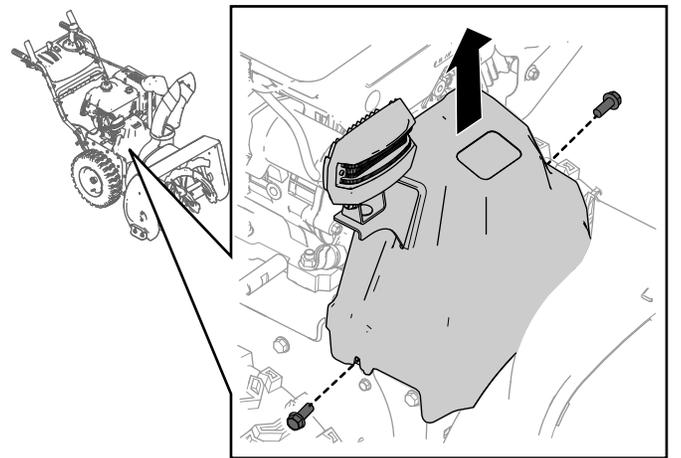

Figure 28
1. Remove the 2 screws that are holding the belt cover in place (Figure 28).
2. Remove the belt cover (Figure 28).